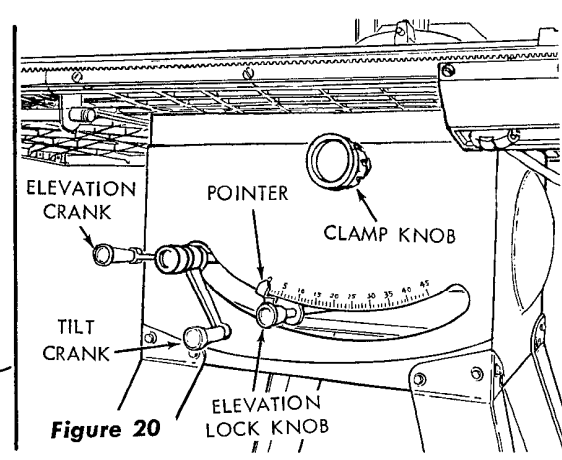
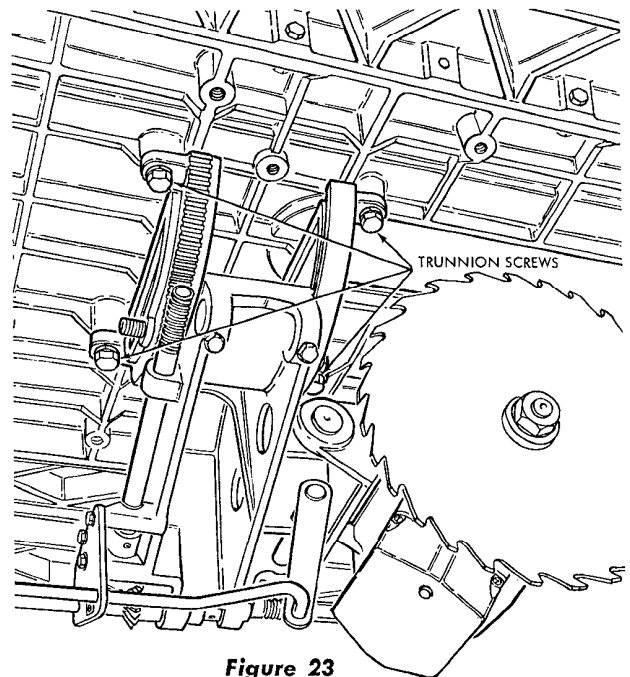
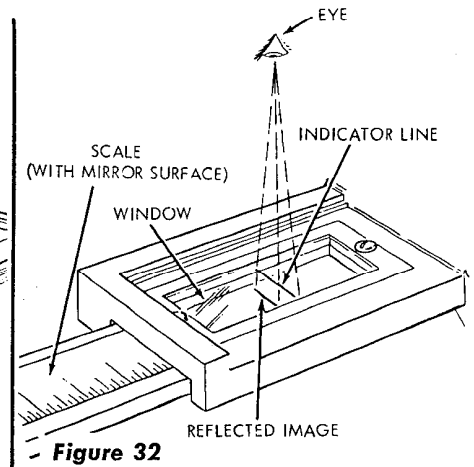

Figure 20
Figure 23
Figure 32
- b. Pull out the elevation lock knob (figure 20) to release the elevating mechanism and, using the elevation crank, position the saw blade for the deepest cut in preparation for aligning the saw blade with table grooves. Push in on the elevation lock knob.
- c. Loosen the clamp knob, and rotate the tilt crank clockwise until it stops (pointer at 0°). (See figure 20.) This will position the saw blade vertically. Tighten the clamp knob.
- (1) Tighten the clamp knob firmly (figure 20) and loosen the two screws which secure each table trunnion (front and rear) to the table. (See figure 23.) It will be necessary to reach these screws from underneath the table.
- (1) If for any reason the tilt handle has been rotated during preceding operations, loosen the clamp knob (figure 20) and rotate the tilt crank clockwise until it stops (tilt pointer at "0"). Tighten the clamp knob.
- (2) Position the rip fence on the right-hand side of the saw blade with the fence channel one-inch from the blade and lock the fence. Be sure to use one of the teeth bent (set) to the right of blade. Measure from this to the fence, since this determines your width of cut. This distance should be measured accurately with a scale.
- (3) Set the right-hand indicator (a scribed line in the plastic window) to "1" inch on the guide-bar scale. This is accomplished as follows:
- (a) A close look will show a reflection of the indicator line on the mirror surface of the guide-bar scale. In order to make sure that you are sighting squarely above the scale, move your eye until the indicator line and its reflected image coincide. (See figure 32.)
NOTE: When properly adjusted, the indicators may be used for most operations, thus eliminating the need for actual measurements except for extreme requirements. When sighting the indicator, always use the system shown in figure 32 in order to make sure the sight angle is correct.